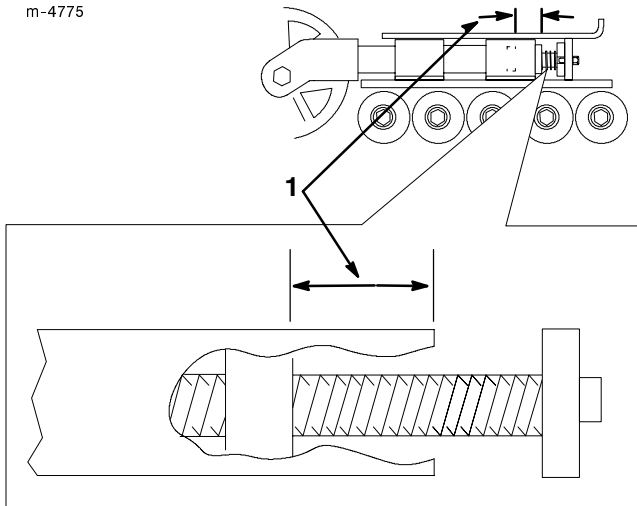

Figure 34
11. Turn the tensioning screw counter-clockwise until the distance between the tension nut and the back of the fork tube (Fig. 34) is 2 3/4 in. (7 cm.).